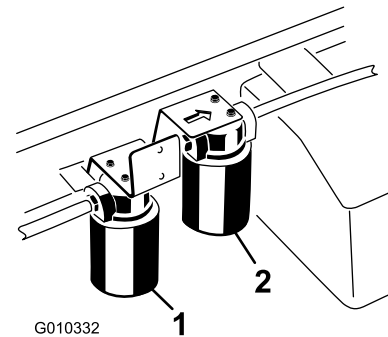

Figure 72
5. Place a drain pan under the filter and remove the filter (Figure 72).
4. Clean the area around the high-flow-filter mounting area (Figure 72).